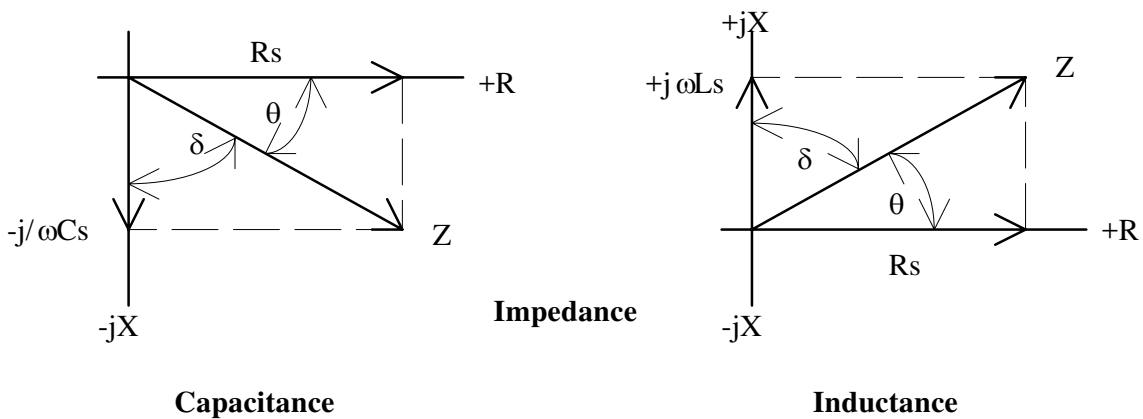
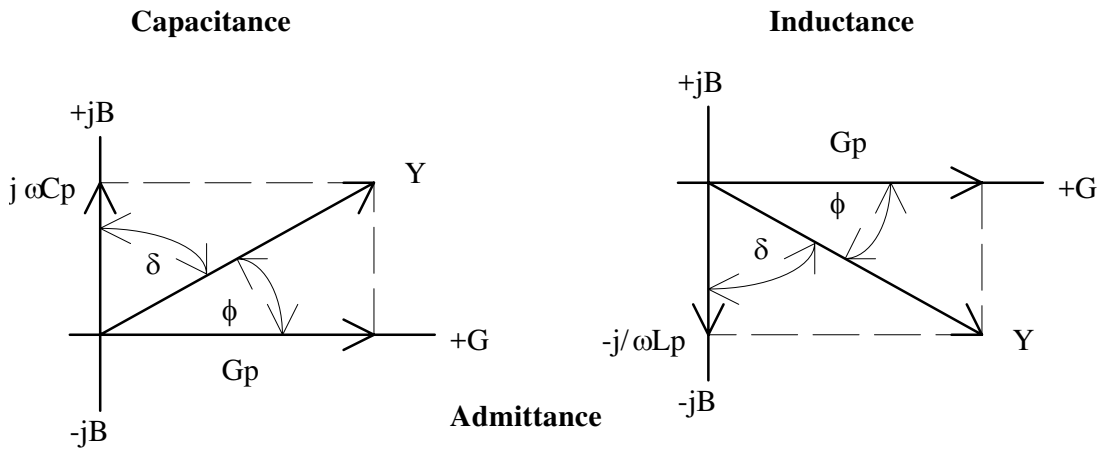

Figure 2-7
Figure 2-8
Impedance is the parameter used to characterize electronic components, materials and circuits. Impedance $|Z|$ is defined as the opposition a device or circuit offers to the flow of ac current at a particular frequency and generally represented as a complex quantity consisting of a real part (resistance, R) and imaginary part (reactance, jX). Impedance can be expressed using the rectangular coordinate form ($R + jX$) or polar form as magnitude and phase angle ($|Z| \angle \theta$). Figure 2-7 shows the mathematical relationship between R , X , $|Z|$, and θ for both inductive and capacitive devices. In some cases it becomes mathematically practical to represent impedance using the reciprocal where $1/|Z| = |Y| = G + jB$, where $|Y|$ represents admittance, G conductance, and B susceptance. This mathematical relationship is shown in Figure 2-8 for inductive and capacitive devices.
Quality factor (Q) is used as a measure of a reactance's purity (how close it is to being a pure reactance, i.e. no resistance) and defined as the ratio of the energy stored in a device to the energy dissipated by the device. Q is dimensionless and is expressed as $Q = X/R = B/G$. From Figure 2-8 one can see that Q is the tangent of the angle θ . Q is commonly applied to inductors and for capacitors the term generally used to express purity is Dissipation Factor (D), which is the reciprocal of Q.